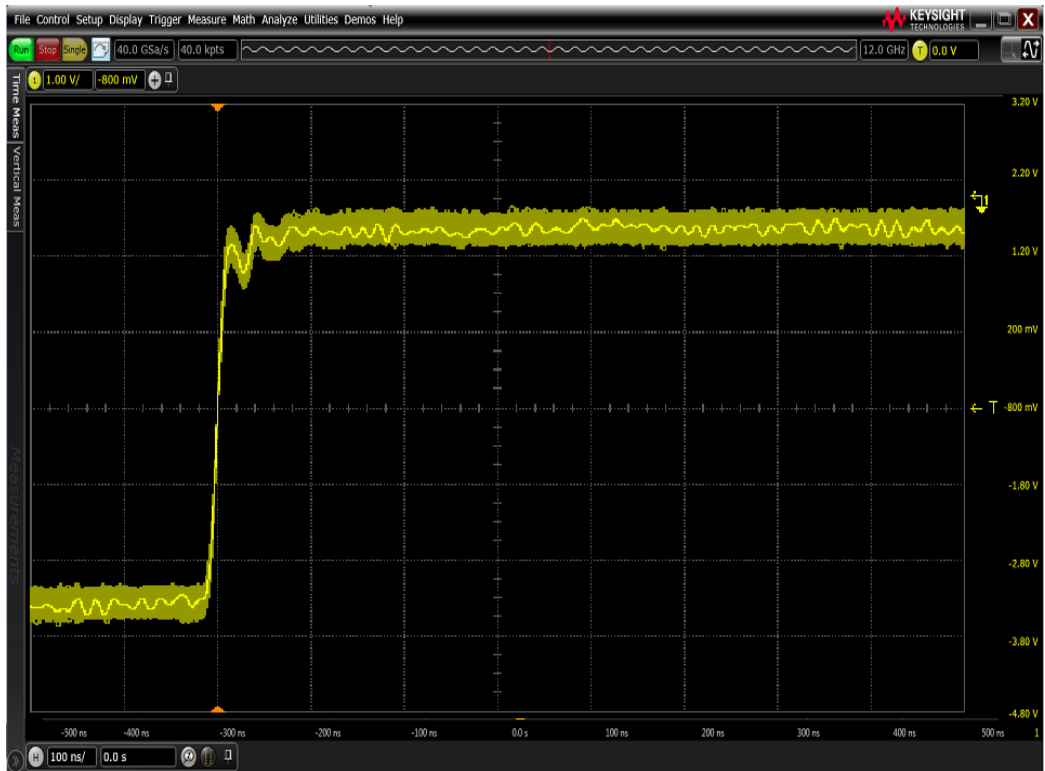

Figure 54 Example of a waveform when the probe connection is good
- 11 Set the horizontal position to approximately 3ns. A waveform similar to the one displayed in Figure 54 must appear.